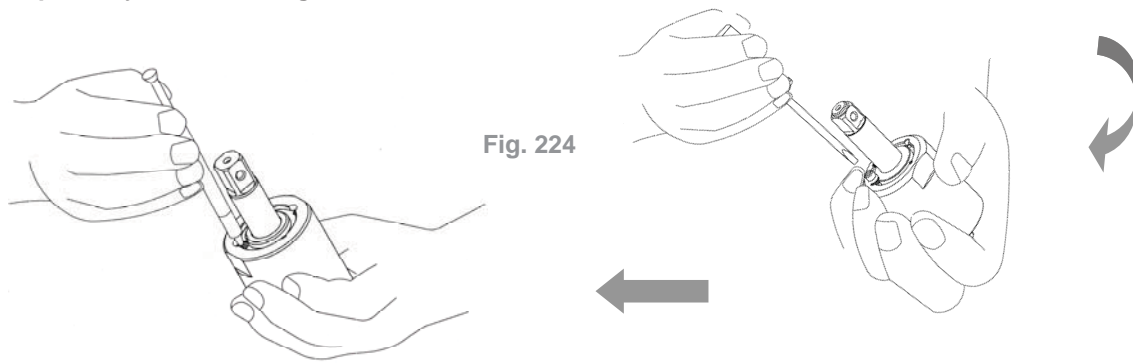

Fig. 224
5.5 Loosen the greasing screw again and use a syringe to draw out a little amount of oil (see Chart 34) . Finally, tighten the greasing screw back to the pulse cylinder unit, Fig. 224.